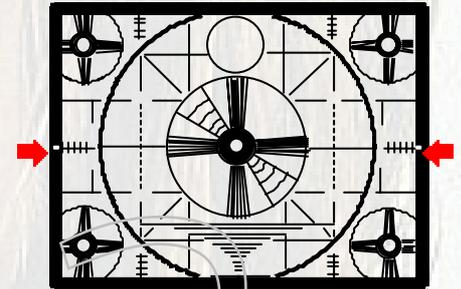

Fig.2-3 NTSC monoscope
2. Use the [VOLUME +/-] key of the jig remote control and adjust so that the center lines of the right most and left most edges on the monoscope screen match with the center mark on CRT. (Fig. 2-3)